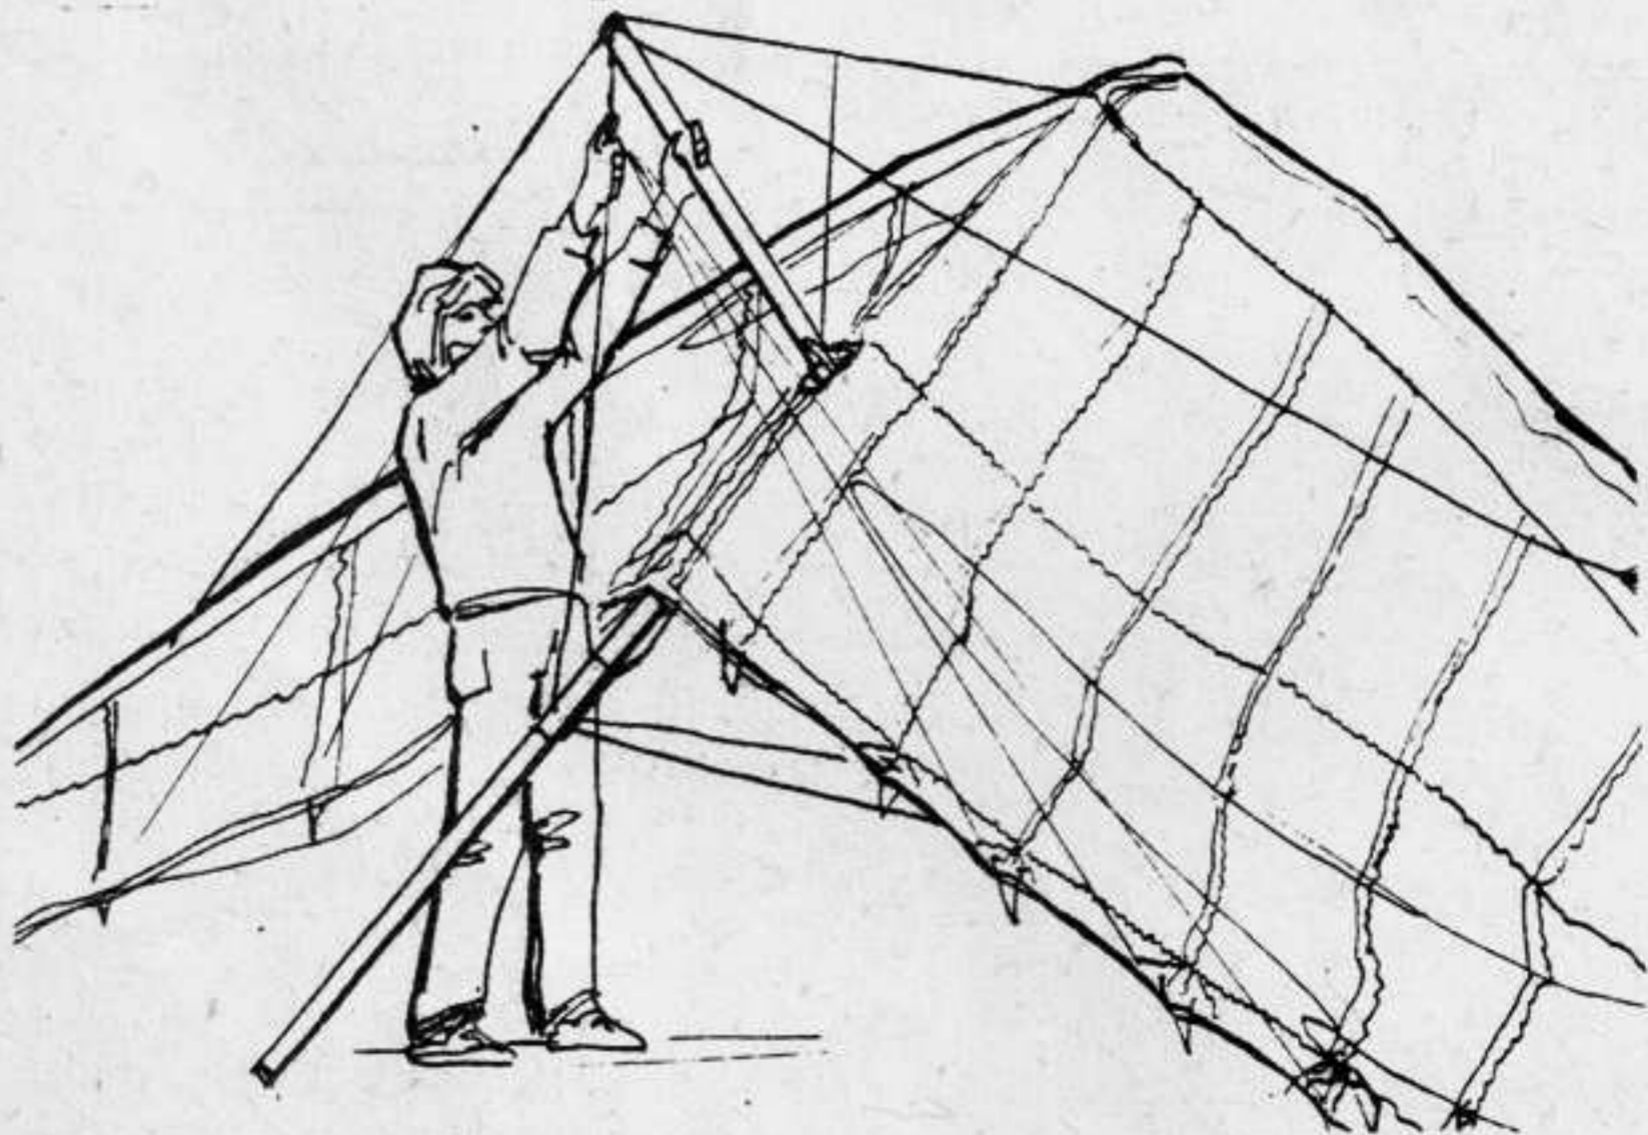

Fig.3
2.1.3. Attach the hook of the top rear wire and the luff lines to the thimble of the top front wire. Make sure that the hook of the wires is not inverted and the luff lines and top wire are not twisted (fig.3).